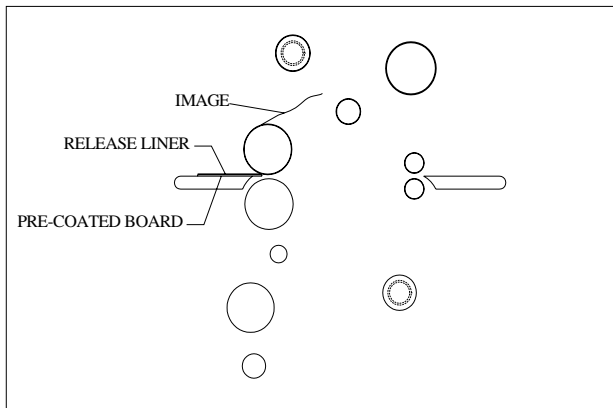

Figure 31
3. Do not stop once you have started the mounting process through the machine. (Fig. 31)
**Note:** This application can also be performed from the front operating position. Reference Fig. 31 for Illustration.